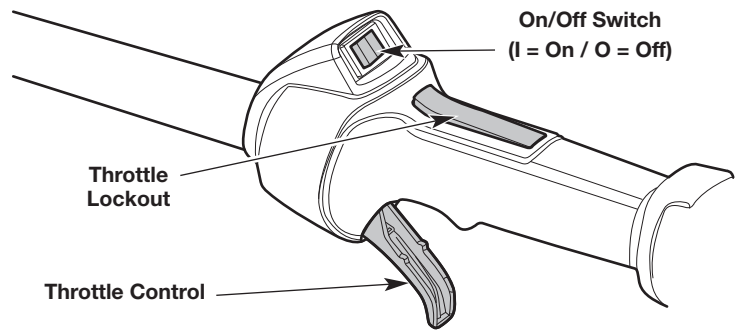

Fig. 9
NOTE: There is no need to turn the unit on. The On/Off switch is in the **On (I)** position at all times (Fig. 9).
NOTE: DO NOT squeeze the throttle control (Fig. 9) until step 6.
6. Press and hold the throttle lockout (Fig. 9). Squeeze the throttle control as needed for operation (Fig. 9).
2. Press and hold the On/Off switch in the **Off (O)** position until the engine comes to a complete stop (Fig. 9).